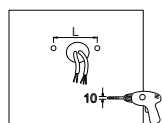

Fig. 3
- 2.) Drill two (2) holes into the mounting surface using the yoke mount as a template (see **Fig. 3**).